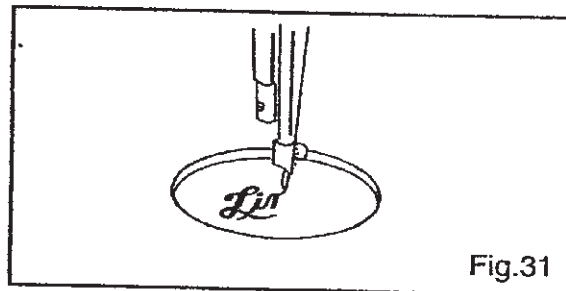

Fig.31
4. to make sure to stretch tightly the material between the internal and external embroidering frames, otherwise, maybe cause skipping and stitches-breaking or material creased.(Fig.31)